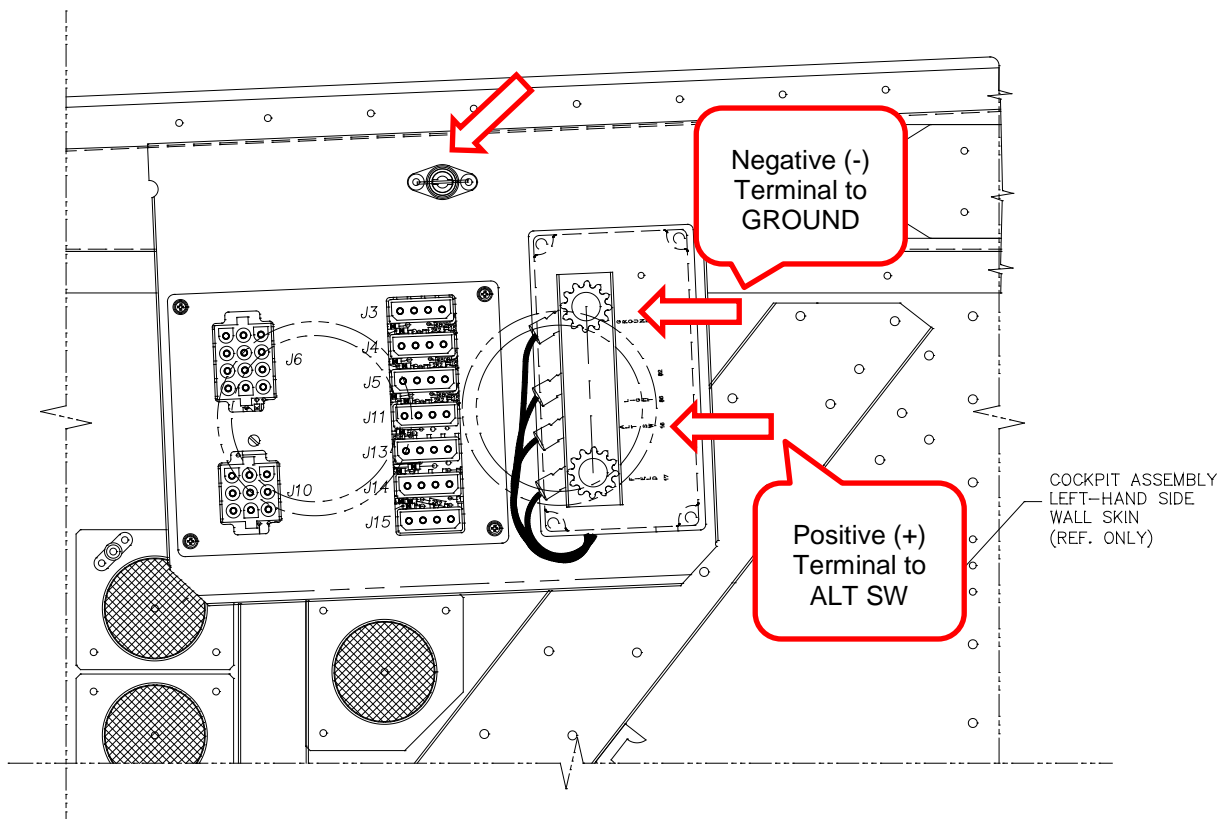

Figure 1 – View looking directly at the Caution Tray Assembly. Aircraft wiring not shown.
3. Access the system controller panel by lowering the kick panel below the instrument panel forward of the pilot seat. It is possible to install the filter capacitor without removing the Caution Tray Assembly. This will depend upon the specific aircraft configuration such as whether an Electronic Flight Instrumentation System is fitted or not affecting accessibility to the System Controller. If the panel is to be removed, rotate the dzus quarter turn screw located at the top of the tray. Refer to Figure 1.
4. Identify the ground and the Alt Switch terminal of the 14V system controller. Refer to Figures 1, 2 and 3. Figures 1 through 3 shows System Controller p/n GA8-243014-011. This Service Bulletin also applies for instances where System Controller p/n GA200-243001-001 is fitted with a similar installation.